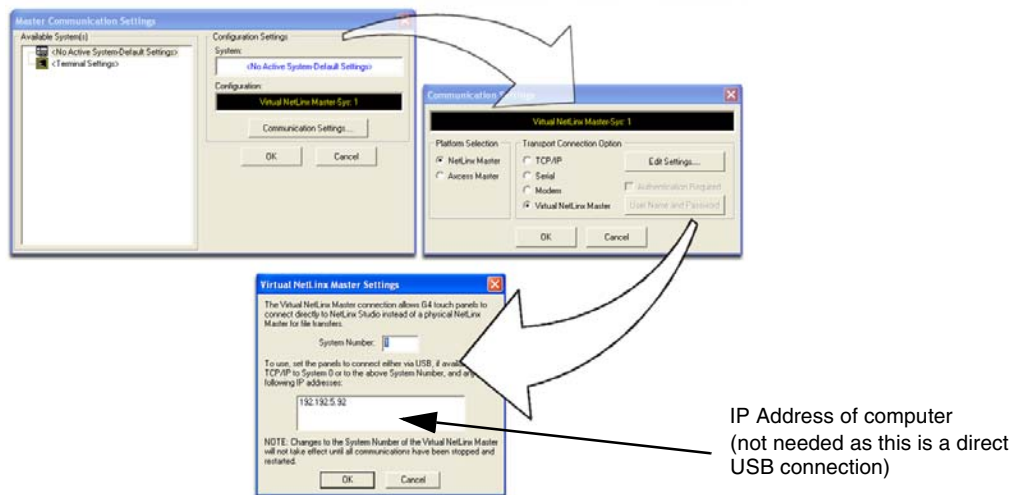

FIG. 72 Assigning Communication Settings for a Virtual Master
2. Select **Settings > Master Communication Settings**, from the Main menu to open the Master Communication Settings dialog (FIG. 72).
6. Click the **Edit Settings** button (on the *Communications Settings* dialog) to open the *Virtual NetLinx Master Settings* dialog (FIG. 72).